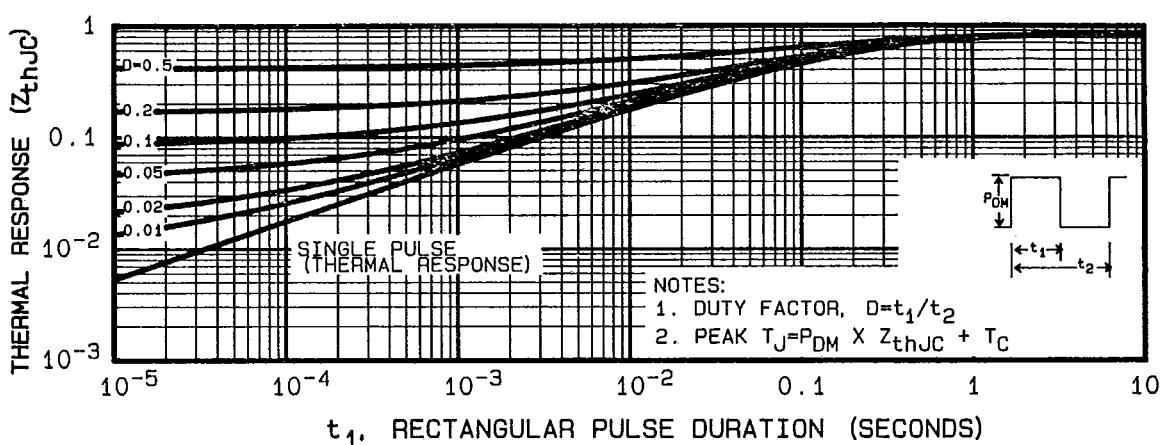

Fig. 17 — Maximum Effective Transient Thermal Impedance, Junction-to-Case Vs. Pulse Duration
- ② Repetitive Rating; Pulse width limited by maximum junction temperature (see figure 17)
- ③ @ $V_{DD} = 50$ V, Starting $T_J = 25^\circ\text{C}$, $L = 20$ mH, $R_G = 25\Omega$, Peak $I_L = 10$ A.
- ④ $I_{SD} \leq 10$ A, $dI/dt \leq 130$ A/μs, $V_{DD} \leq BV_{DSS}$, Suggested $R_G = 6.2\Omega$